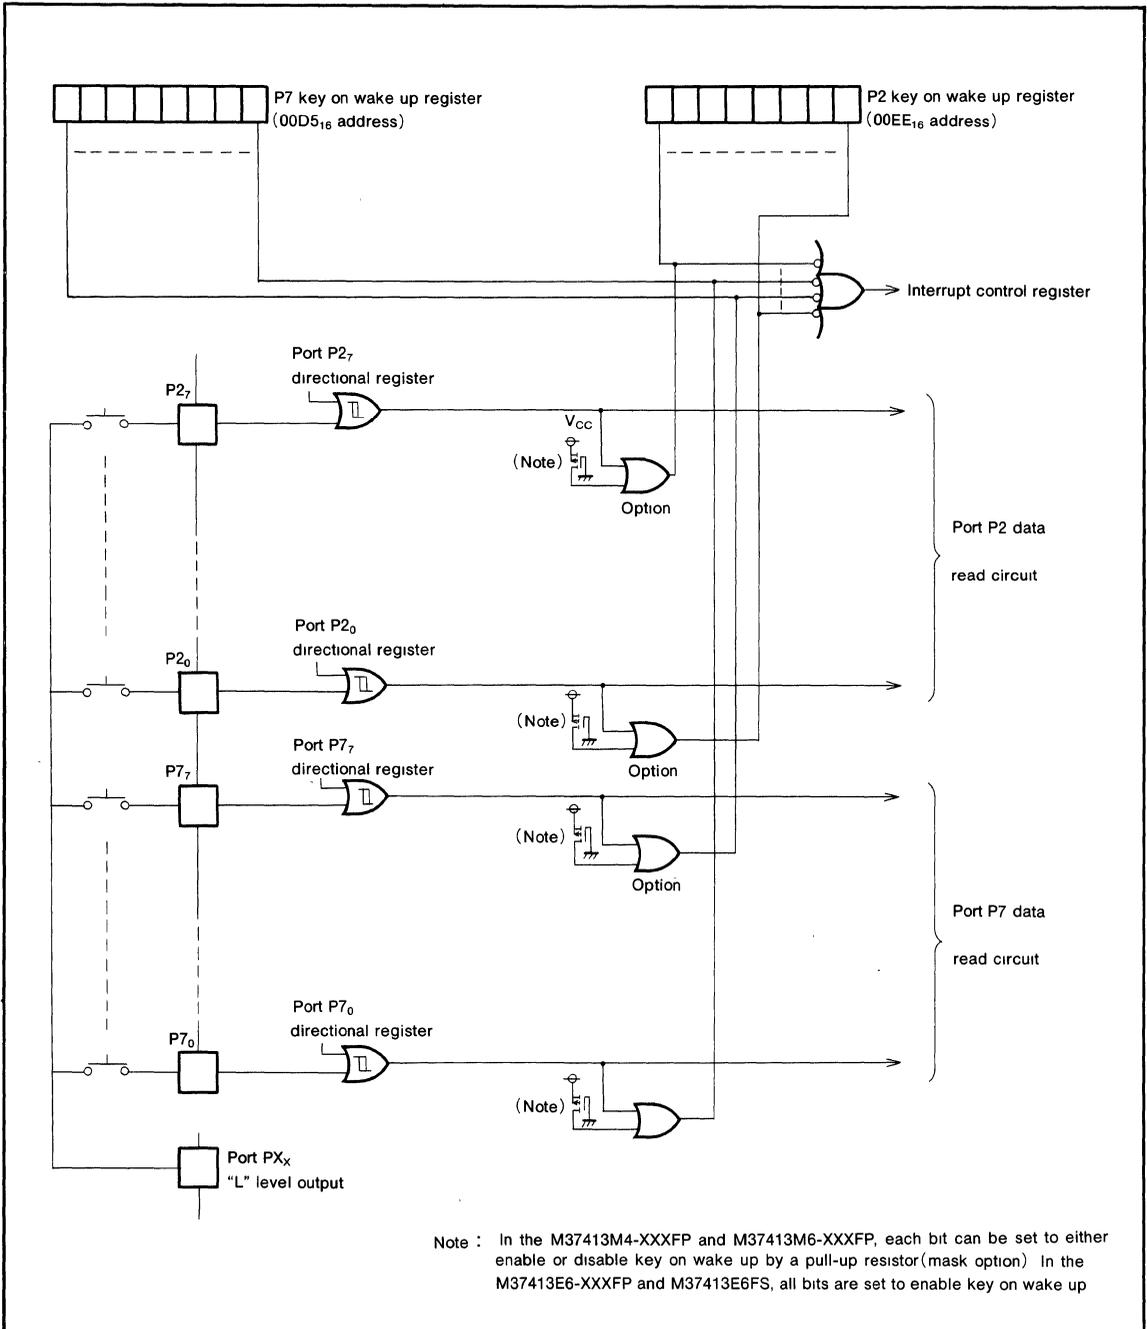

Fig. 15 Block diagram of port P2, P7 and example of wired at used key on wake up
As shown in Figure 15, if the key matrix of active "L" to input port P2, P7 are constructed, the microcomputer is returned to normal operating state by the key push. Refer to the section of interrupt how to use the key on wake up function. In order to enter the power down state generated by the STP or WIT instruction at the interrupt disable flag (I) is "0" and IC_4 is "1", the input designated as key on wake up by option in port P2, P7 must be all "H".